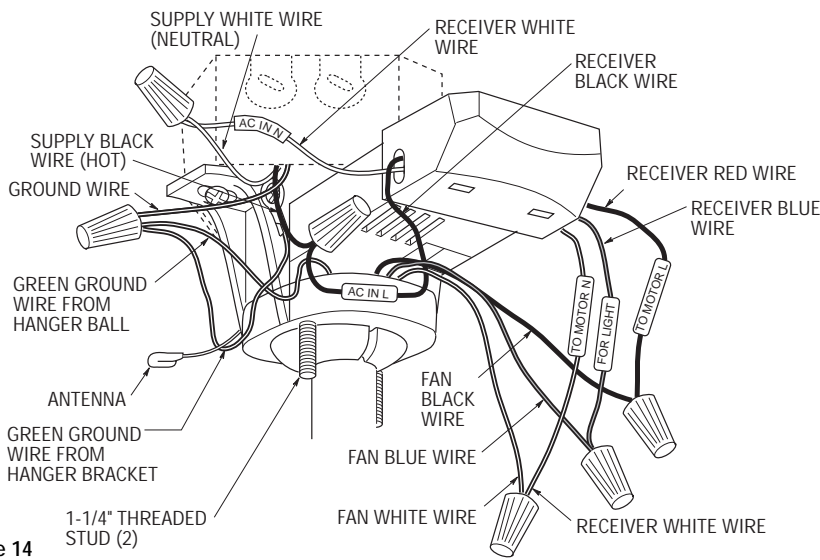

Figure 14
- 1. Position the supply wires to the left side of the outlet box (Figure 14); position the fan wires to the right side. Partially insert the remote control receiver (flat side up) until one end rests on the hanger ball as shown in Figure 14.
- 2. Refer to Figures 14 and 15 and connect the receiver wires to the supply wires and the fan motor wires as follows:
- 4. Screw the two 1-1/4" threaded studs (supplied) into the tapped holes in the hanger bracket (Figure 14).